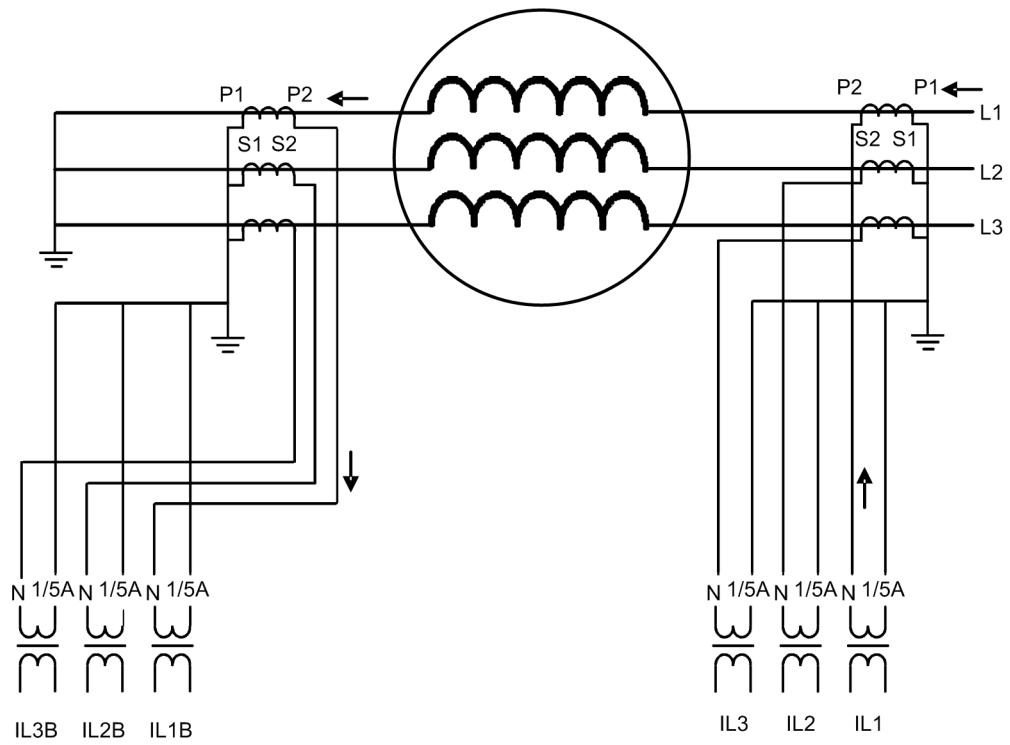
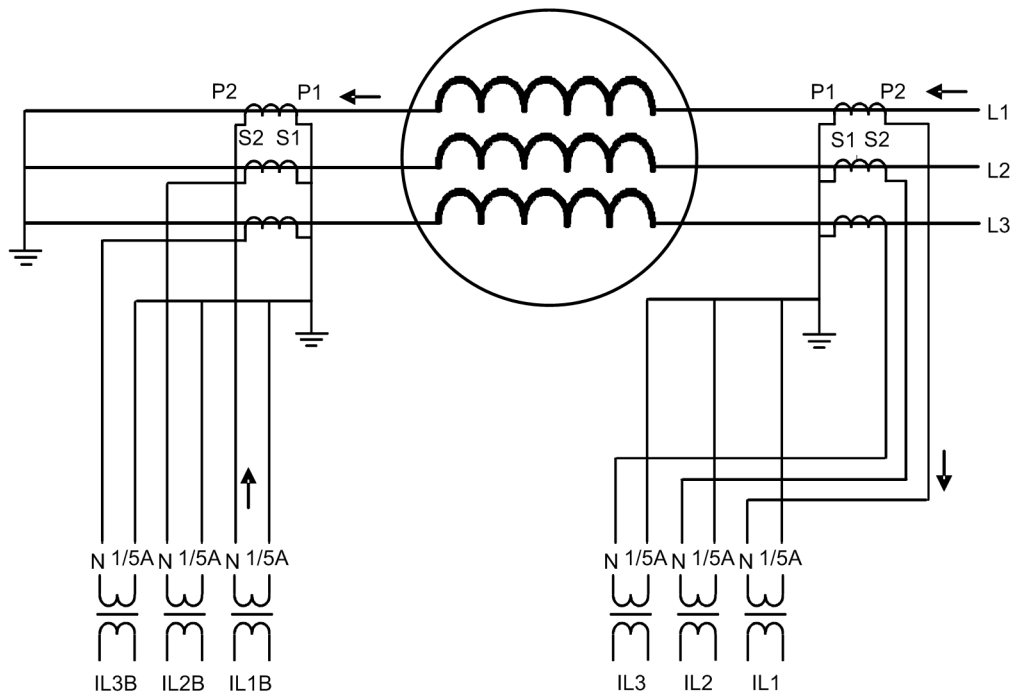

Figure 260: Connection of current transformer of Type 1, example 1
Figure 261: Connection of current transformer of Type 1, example 2
- If the positive directions of the winding 1 and winding 2 protection relay currents are opposite, the *CT connection type* is of "Type 1". The connection examples of "Type 1" are as shown in figures Figure 260 and Figure 261.